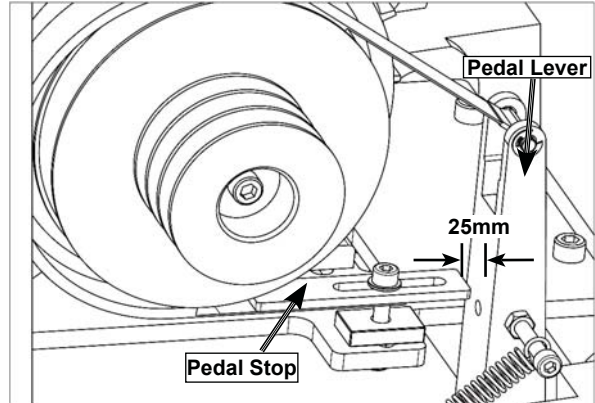

Figure 101. Pedal travel adjustment.
5. Remove pedal stop shown in Figure 101.
7. Firmly push the pedal lever (Figure 101) to the right until it stops and the brake band is fully clamped around the brake hub.
8. Tap the pedal stop into position so there is approximately a 25mm gap between the pedal lever and the stop (see Figure 101).